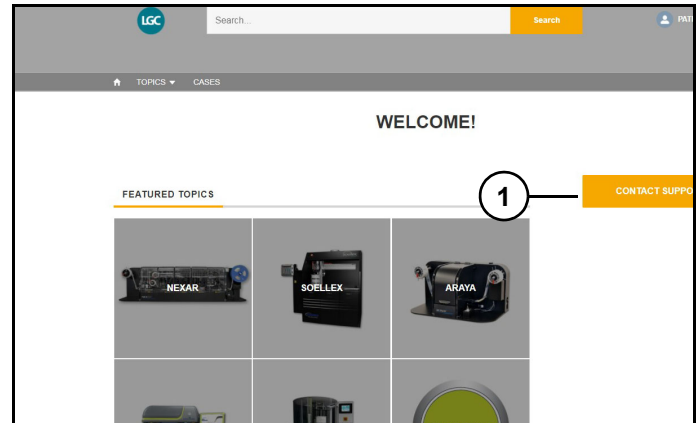

Figure 4
1. Click "Contact Support" (1) (Figure 4).